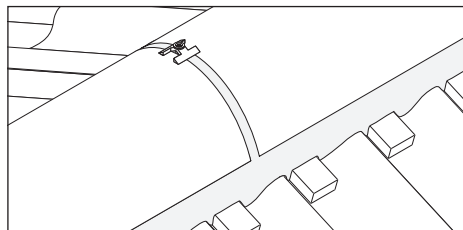

Fig. 47 – Bedded 457mm Segmental Ridge with security ridge kit
- 2 Mortar bedded ridges must also be mechanically fixed (Fig. 47) using the Marley Eternit mortar bedded security ridge kit, see pages 103-105.